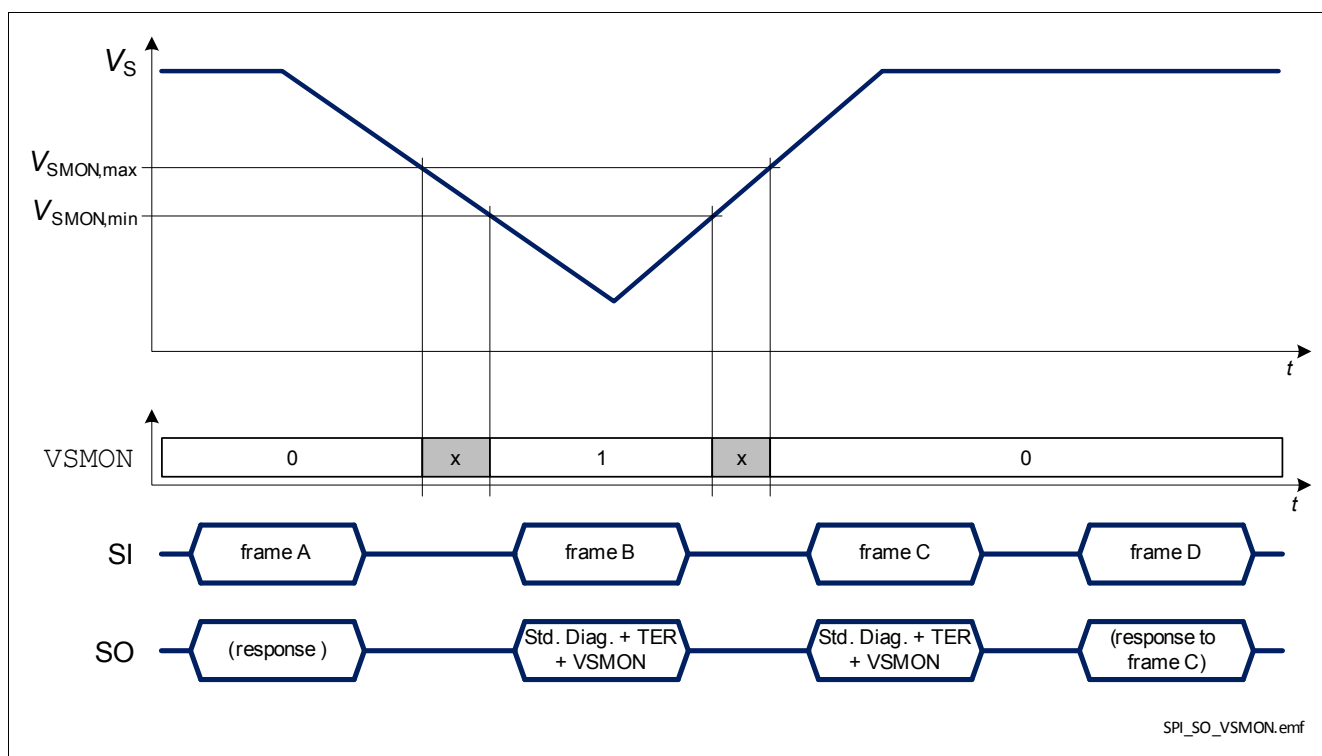

Figure 34 BTS54040-LBF response in case of a negative battery voltage transient
- when $V_S < V_{\text{SMON}}$ and $\text{DCR.MUX} \neq 111_{\text{B}}$, as shown in Figure 34